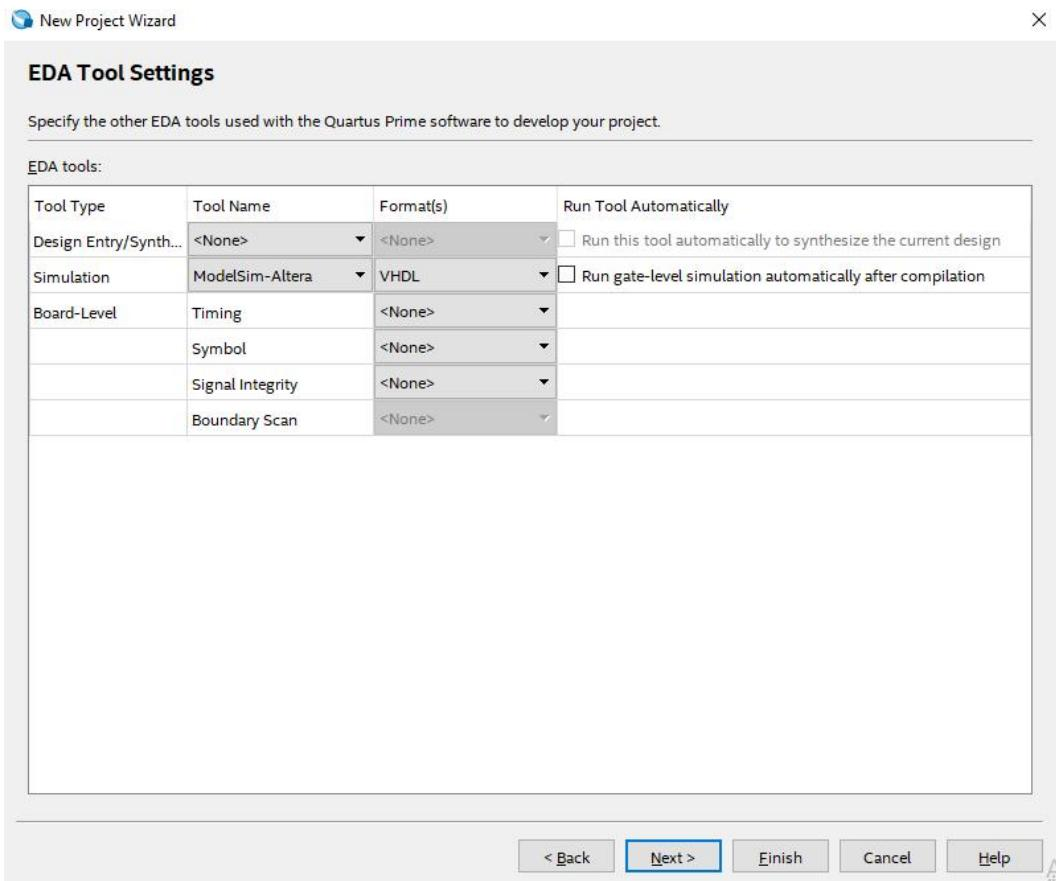

Figure 6: Quartus EDA tool settings page
7. In the ‘Page 5’ window, you will be asked to select a simulation tool. From drop down menu in Tool Name column, corresponding to the Tool Type simulation select Modelsim-Altera, refer figure 6. From formats drop down menu select the language, in our case VHDL. Click Next